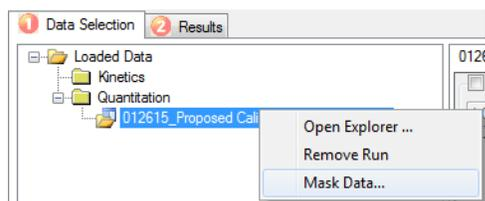

Figure 4-43: Selecting Mask Data Option.
2. Select **Mask Data** (Figure 4-43).